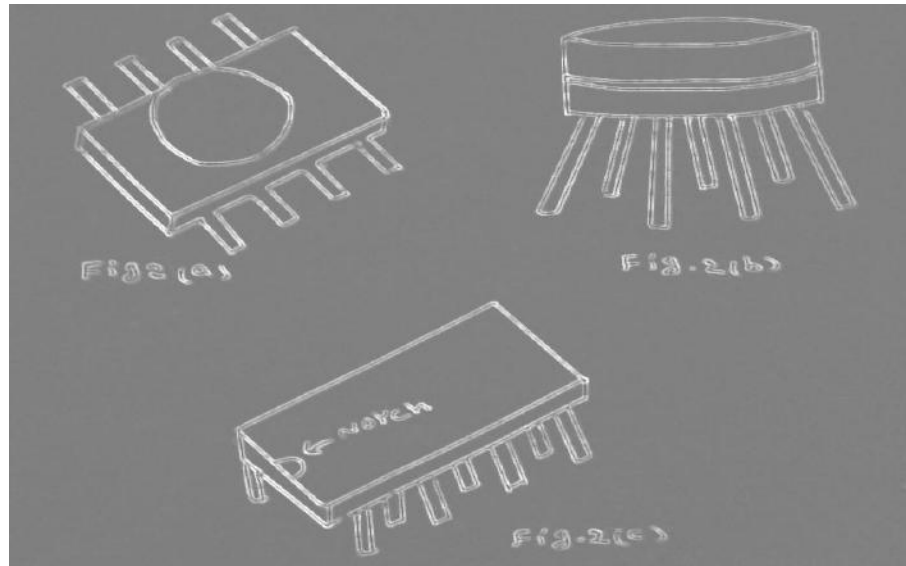

Fig. 2: Types of IC packages
1. Flat Pack: Chip is enclosed in a rectangular ceramic case. Leads extend from sides as shown in Fig. 2 (a). It comes with 8, 10, 14 or 16 leads. It is more reliable and lighter. But it has high power consumption and power dissipation
Chip is mounted in a metal or plastic case. Pins are arranged radially as shown in Fig. 2 (b). It is available with 3, 5, 8, 10 or 12 pins. It is best suited for power amplifiers and audio amplifiers. It has external heat sink to dissipate heat.